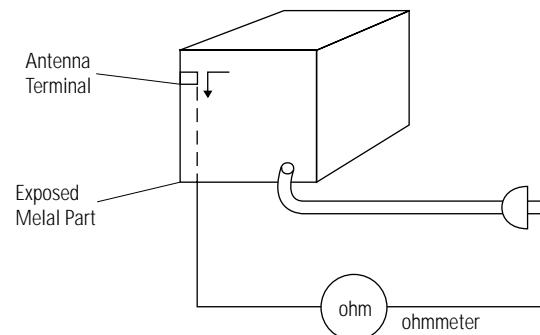

Fig. 1-2 Insulation Resistance Test
(4) Insulation Resistance Test Cold Check-(1) Unplug the power supply cord and connect a jumper wire between the two prongs of the plug. (2) Turn on the power switch of the instrument. (3) Measure the resistance with an ohmmeter between the jumpered AC plug and all exposed metallic cabinet parts on the instrument, such as screwheads, antenna, control shafts, handle brackets, etc. When an exposed metallic part has a return path to the chassis, the reading should be between 1 and 5.2 megohm. When there is no return path to the chassis, the reading must be infinite. If the reading is not within the limits specified, there is the possibility of a shock hazard, and the instrument must be re-paired and rechecked before it is returned to the customer. See Fig. 1-2.